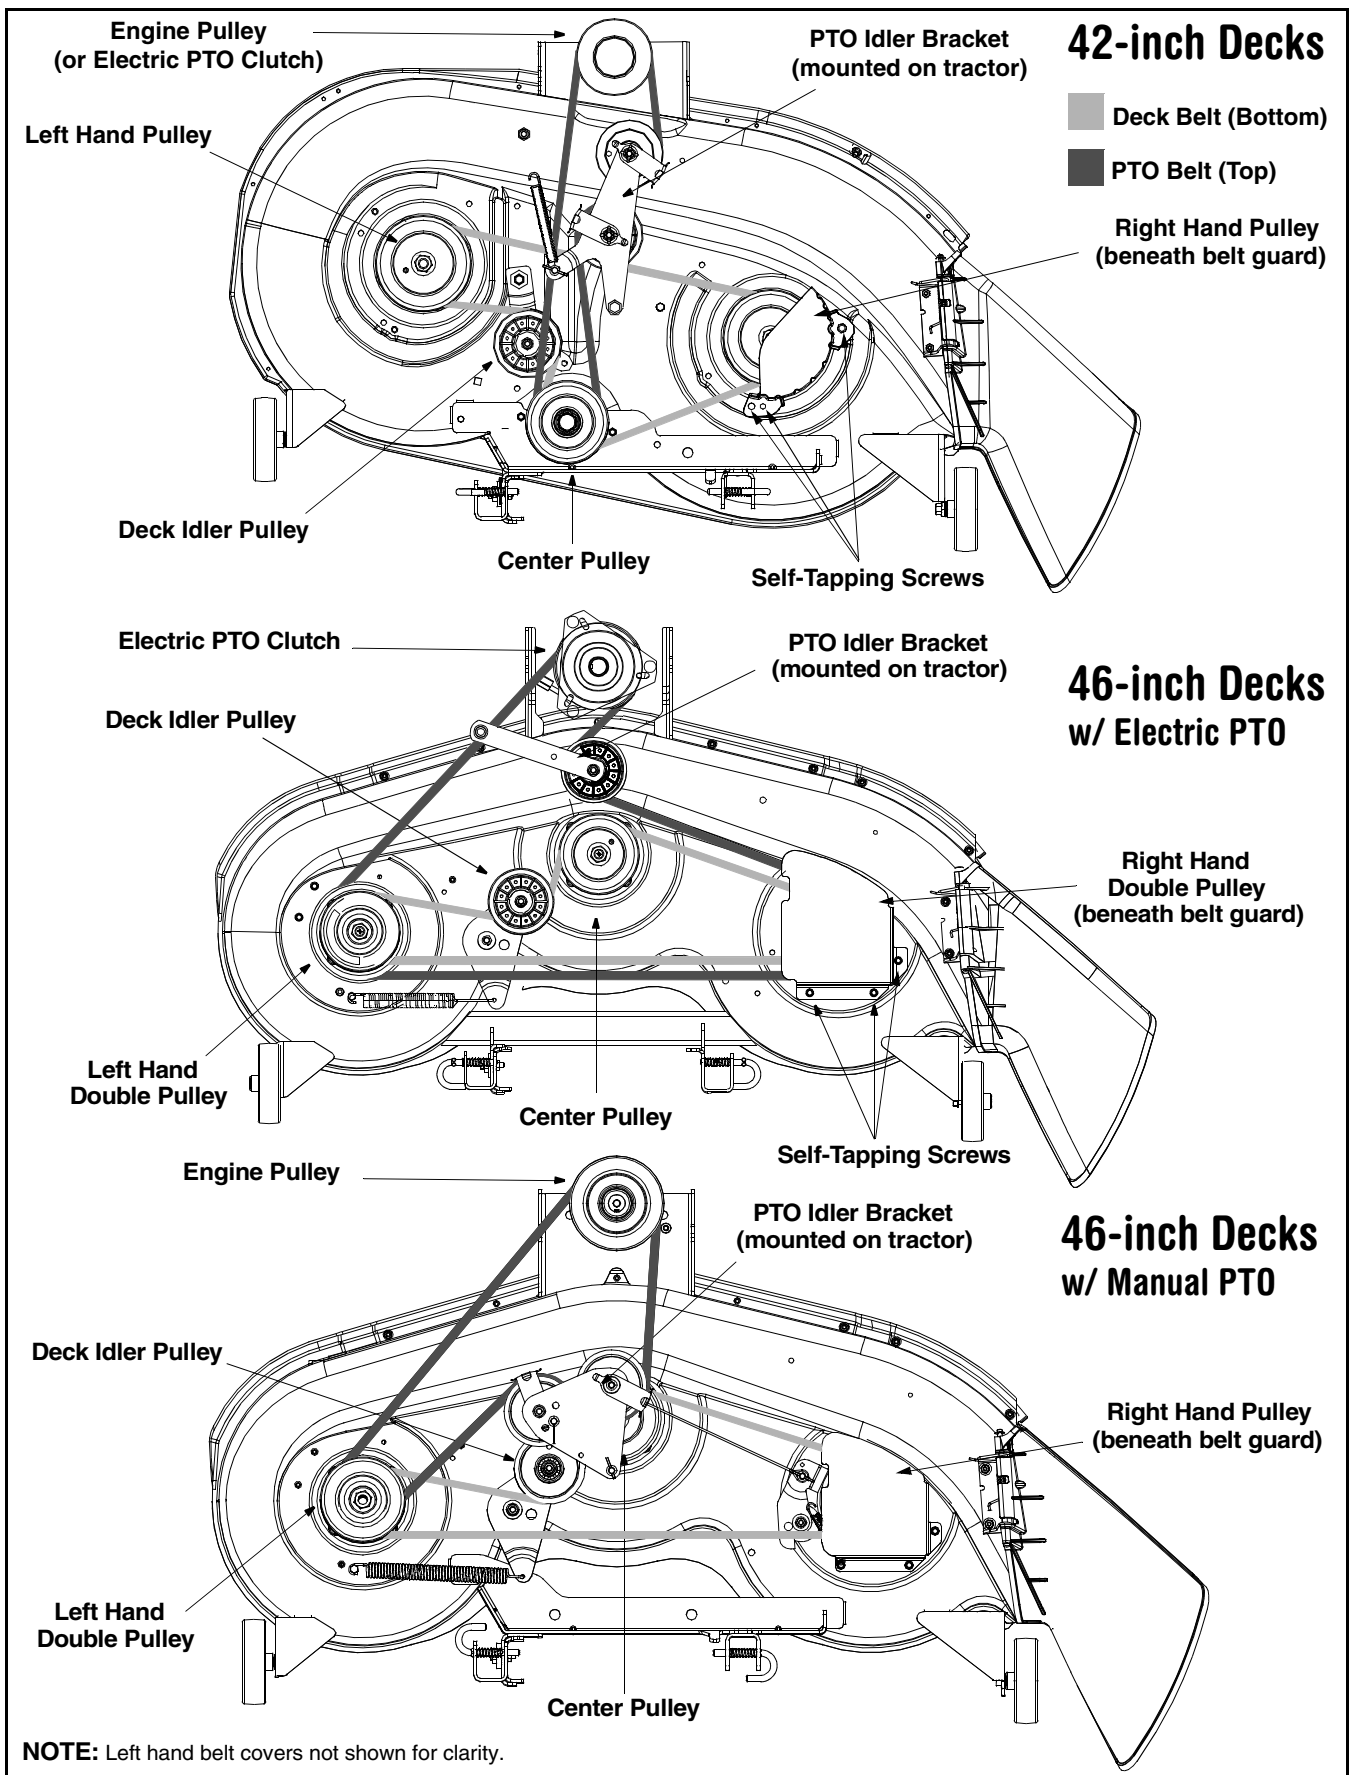

Figure 23
- On models equipped with a 46-inch deck, remove the PTO belt from around the tractor's engine pulley (or electric PTO clutch, if so equipped) and idler pulley(s). Refer to Figure 23.